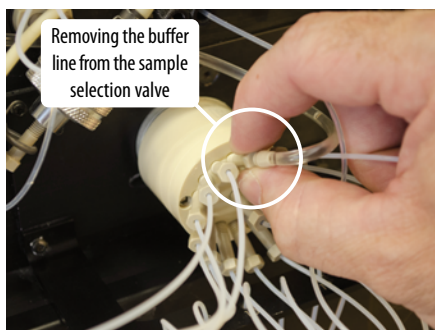

Figure 1.
1. Attach a union to the Autosampler buffer line, then remove the instrument buffer line from port 1 on the sample selection valve (**Figure 1**).